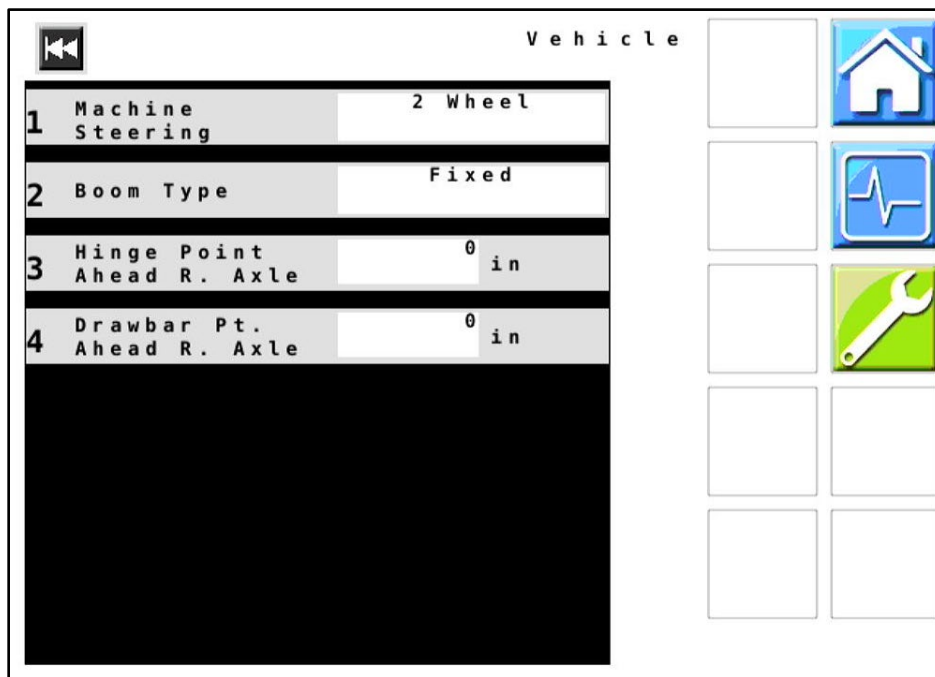

**Figure 18 — Control Tuning**
31. **Figure 18:** Verify that all values displayed on your unit match those shown here. Change values if necessary.